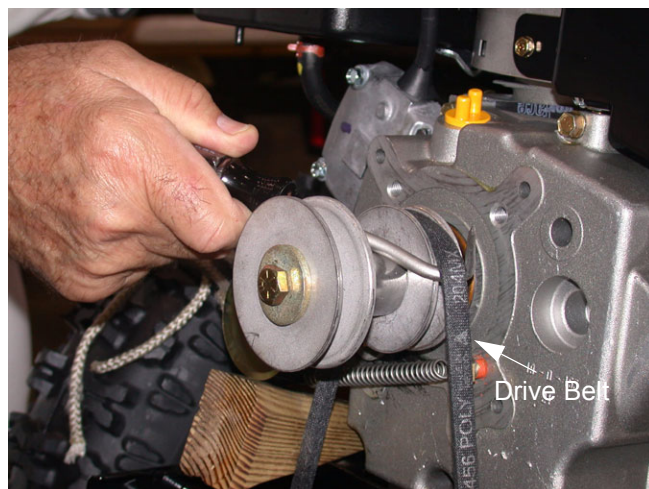

Figure 42
- 15.4. Using the engine pull start handle and a small cotter pin removal tool, roll the drive belt off the engine pulley. See Figure 42.